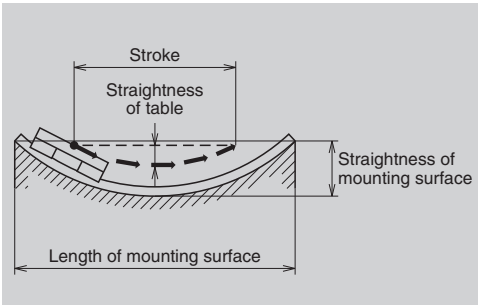

Fig. 9.4
- However, when two or more slides are assembled to each rail, the table stroke becomes shorter than the mounting surface. This, along with the fact that the mounting error is evenly spread, contributes to a higher table accuracy than the mounting face accuracy, reducing the error to about 1/3 in average (Fig. 9.4).